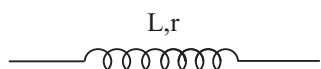

Fig. 24.1: Symbol of an inductor
- Symbol of an inductor is as shown in Fig. 24.1. Here L and r stand for the self inductance and resistance of the inductor respectively.